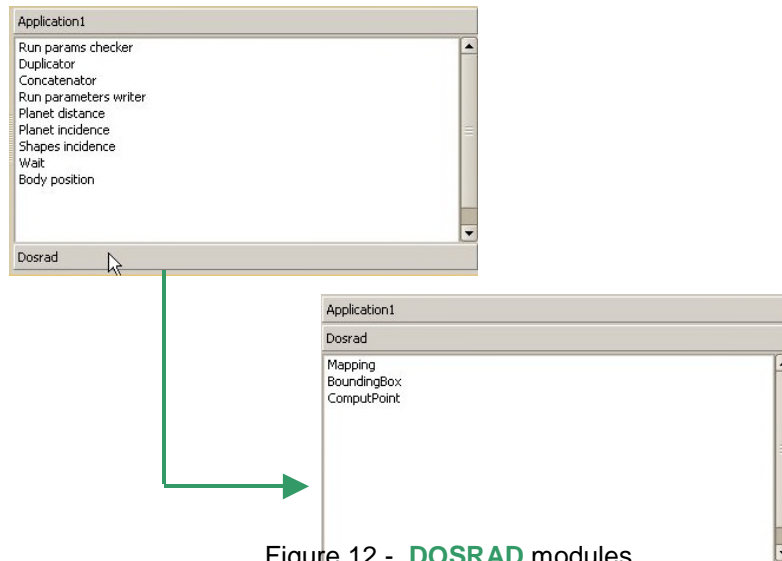

Figure 12 - **DOSRAD** modules
- Double click (or Drag and Drop) the selected **DOSRAD** module (Figure 12 - **BoundingBox** module).
To display all the **DOSRAD** modules, the user has to repeat the task shown on (Figure 12 - **BoundingBox** module). The following window displays: